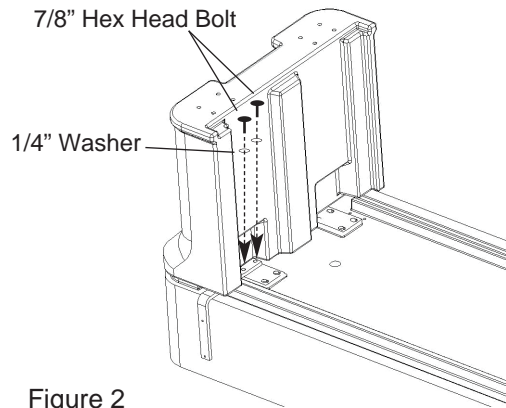

Figure 2
Step 3: Line up two holes in the Tray Slide Bracket with holes closer to leg (see Figure 2).
Step 4: Using the longer bolts shipped with the Tray Slide and the washers, attach Tray Slide Bracket to Basin (see Figure 2).